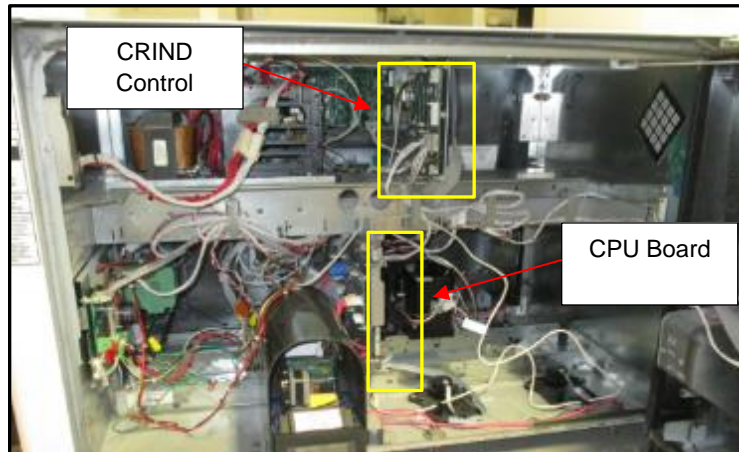

Fig 1.17 – Location of CRIND Control Node and CPU Board
- 20.** Identify the CRIND Control Node located on the upper electronics rail inside of the electronics cavity, and the CPU Board mounted below. (Fig 1.17)